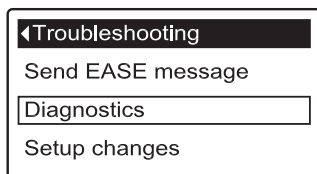

FIG. 83
2. To display the Diagnostics screen from any of the rolling status screens (when an error code is not displayed), press the SELECT (O) button to display the **Main menu**.
4. Press the SELECT (O) button to display the Advanced settings menu.
6. Press the SELECT (O) button to display the Troubleshooting menu (See Figure 83).
1. From any of the rolling status screens, press the SELECT (O) button to display the **Main menu**.
3. Press the SELECT (O) button to display the Advanced settings menu.
5. Press the SELECT (O) button to display the Troubleshooting menu (See Figure 83).
- **Cancel** will return to the Troubleshooting menu (Figure 83).
9. Press the SELECT (O) button.